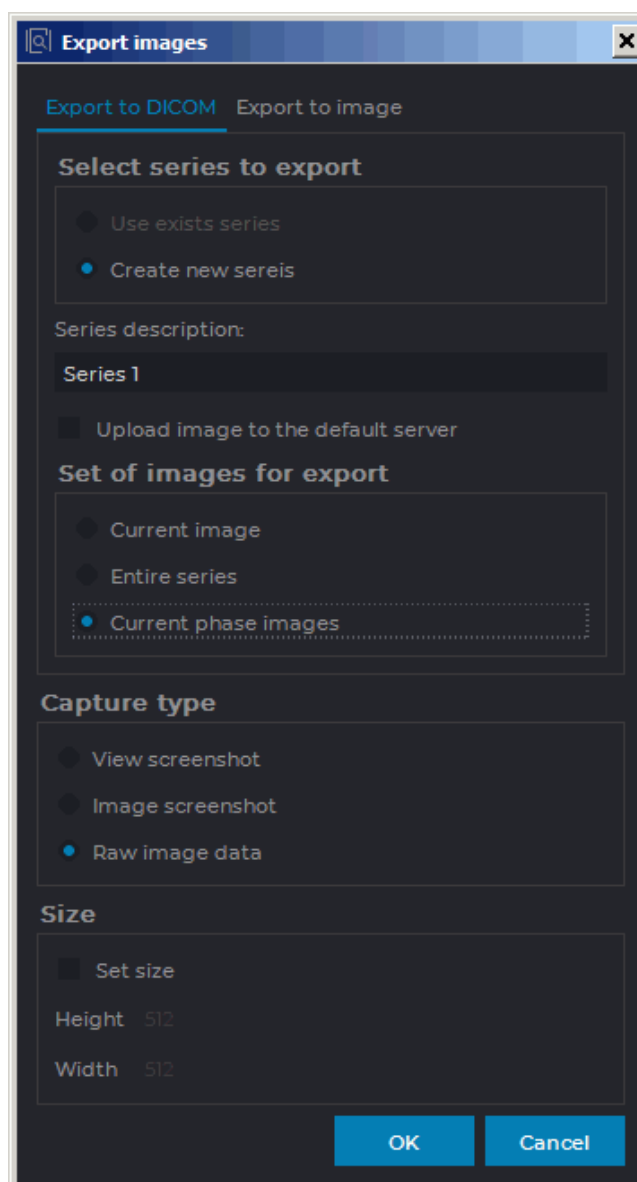

Figure 2.80: DICOM export window
2. Select the **Export to DICOM** tab. The export window will look as shown in Fig. 2.80.